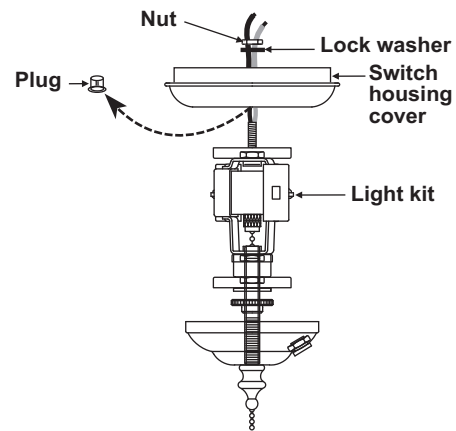

Figure 16
1. Remove the switch housing cover from the switch housing. Remove the plug from the switch housing cover, attach the light kit to the switch housing cover by feeding the light kit wires (black and white) through the hole of switch housing cover and then screw it onto the switch housing cover by nut & lock washer provided. Be sure it is tight enough to prevent light kit from vibrating loose. (Fig. 16)